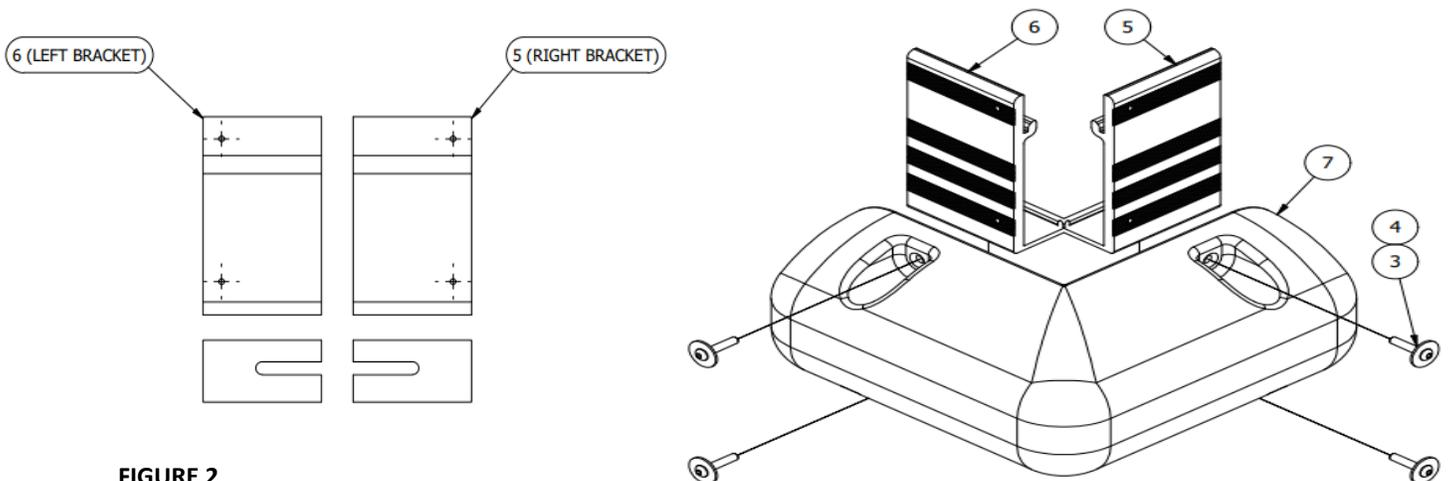

FIGURE 2
2. After the corner leg is removed, place the left corner bracket & right corner bracket on the corner bumper and secure with bolts (3) and washers (4) (as shown in figure 2).
- a. An easy way to know if you are using the correct brackets in the correct location is the open end on the left/right corner brackets should be facing away from the corner of the bumper (figure 2).